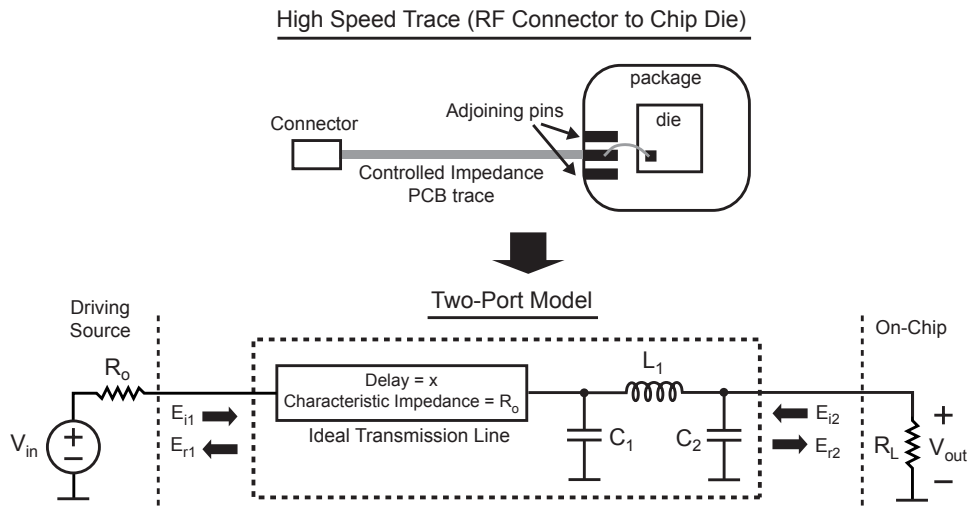

Figure 1: Example high speed trace and associated 2-port model.
1. Consider the high speed trace and its associated two-port model shown in Figure 1. In the model, the transmission line corresponds to an RF connector and PCB trace (both assumed to be ideal), C_1 is the capacitance of the package pin to the package substrate and adjoining pins, L_1 is the bondwire inductance, C_2 is the on-chip pad capacitance, and R_L is the on-chip termination resistor. For all calculations to follow, it assumed that the source driving impedance is precisely matched to the transmission line characteristic impedance, R_o .